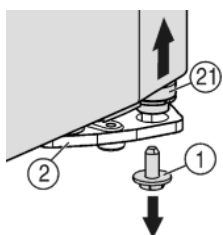
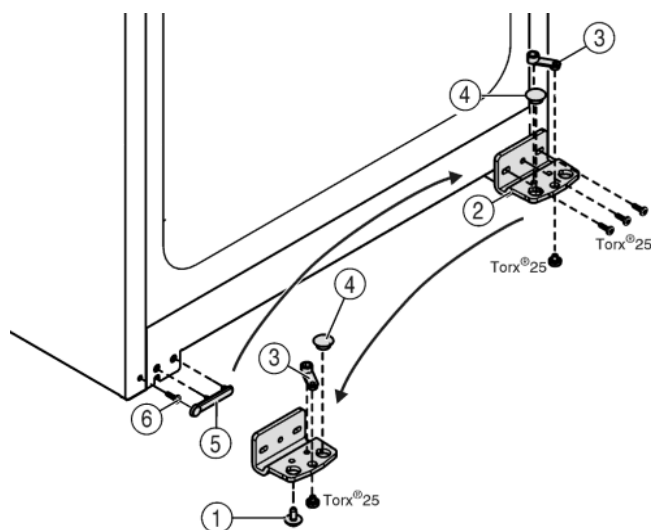

Fig. 4
Fig. 5
- ▷ The bearing pin *Fig. 4 (21)* should come out of the turn hinge *Fig. 5 (2)*.
- If the bearing bolt *Fig. 4 (21)* doesn't undo press it out from underneath.
- Unscrew the turn hinge *Fig. 5 (2)*.
- Unscrew the bearing element, *Fig. 5 (3)* transfer it to the opposite location hole of the turn hinge and screw it firmly into place.
- Take the stopper *Fig. 5 (4)* out of the turn hinge and transfer it to the receiving hole on the opposite side of the turn hinge.
- Carefully lift off the cover *Fig. 5 (5)* on the handle side.
- Undo the screw *Fig. 5 (6)* and transfer it to the opposite side.
- Put the cover *Fig. 5 (5)* back on.
- Screw the turn hinge *Fig. 5 (2)* firmly into place on the new hinge side (**with 4 Nm**), possibly using a power screwdriver.
- Insert the securing screw *Fig. 4 (1)* at the bottom into the bearing pin and tighten it (**with 4 Nm**).